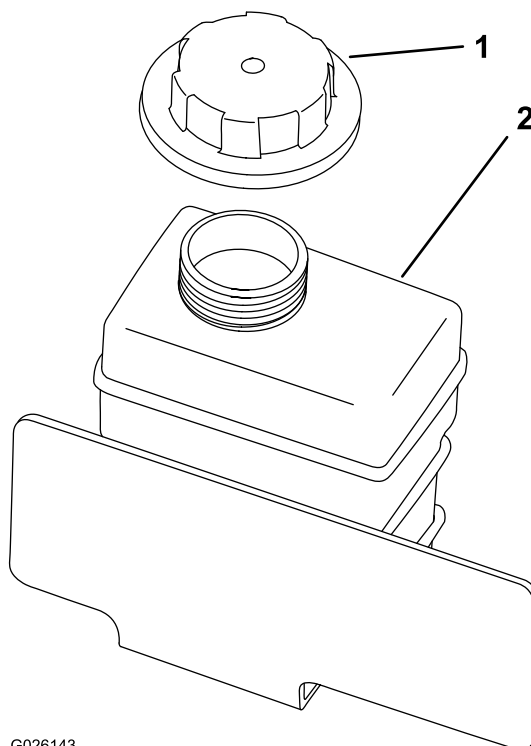

Figure 49
4. Check the coolant level inside the reserve tank (Figure 49).